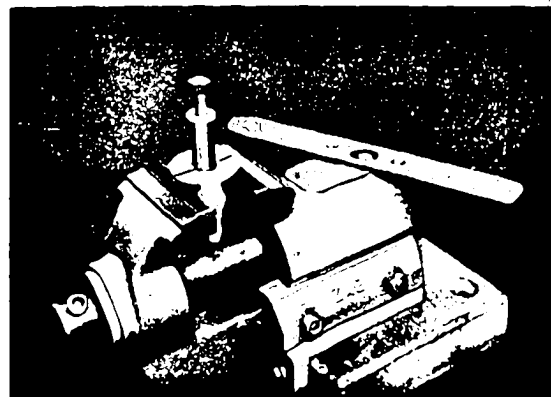

Fig. 7 0 681 340 015 (EFEP 322) assembly tool clamped in vise
3. Clamp 0 681 340 015 (EFEP 322) assembly tool (Fig.7) in vise and fix timing device on it so that the two grooves in the guide bush of the coupling flange mate with the cross ridge of the tool. Locate timing device securely with hex-head screw and washer.